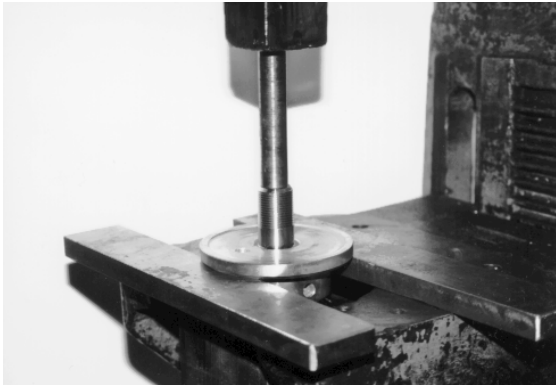

FIGURE 41
7) Using the Allen wrench, remove the Allen screws that retain the hub body to the arbor shaft. If the hub body does not freely remove itself from the arbor shaft, position the assembly in a suitable arbor press. FIGURE 41. The hub can be removed by pressing the hub body from the arbor shaft. As the hub body separates from the arbor shaft, the arbor shaft/bearing block assembly can fall directly to the work surface.